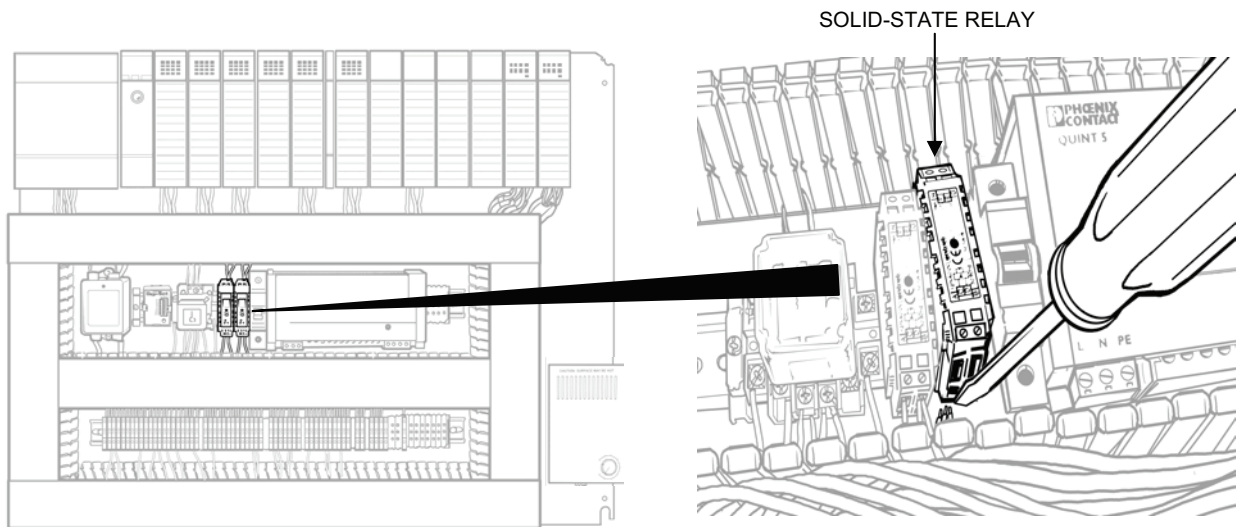

Figure 14. Solid State Relay Removal.
3. Remove the solid state relay as follows (see Figure 14):